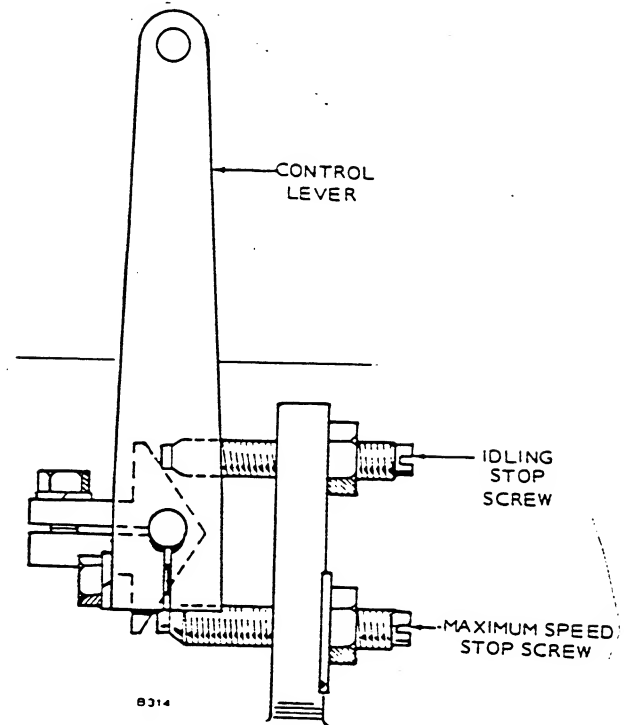

FIGURE 20. GOVERNOR SPEED ADJUSTMENT
1. Loosen lock nuts on idle stop screw and maximum speed stop screw. Refer to Figure 20.